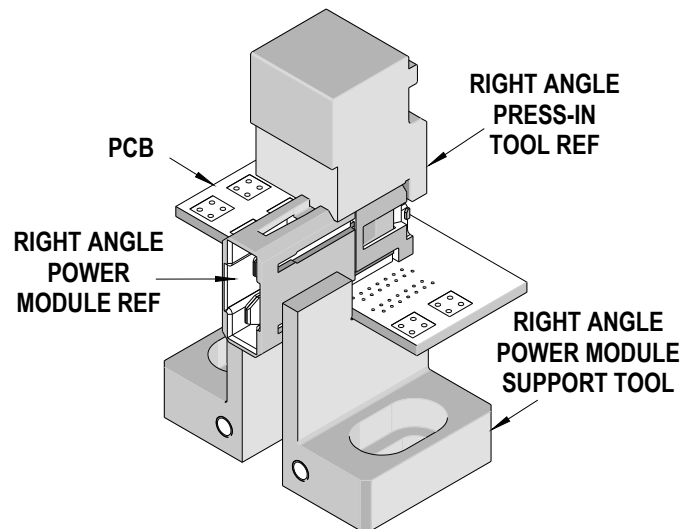

Figure 2-19
**NOTE:** These tools are used only when installing I-Trac™ Right Angle Power Modules with no Daughtercard assemblies on either side, to provide printed circuit board support. See Figure 2-19.
The Support Tool can be a stand-alone tool shown in Figure 2-19 or placed in a fixed position. The Support Tool may be held in place with M4 socket head cap screws (not included).